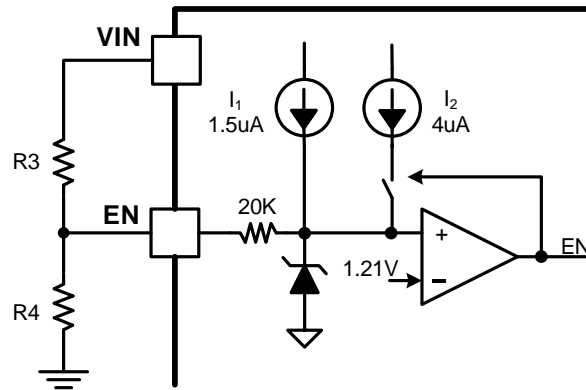

Figure 9. Adjustable VIN UVLO
EN pin automatically enables the device. For the application requiring higher VIN UVLO voltage than the default setup, there is a 4uA hysteresis pull up current source on EN pin which configures the VIN UVLO voltage with an off-chip resistor divider R3 and R4, shown in Figure 9. The resistor divider R3 and R4 are calculated by equation (1) and (2).